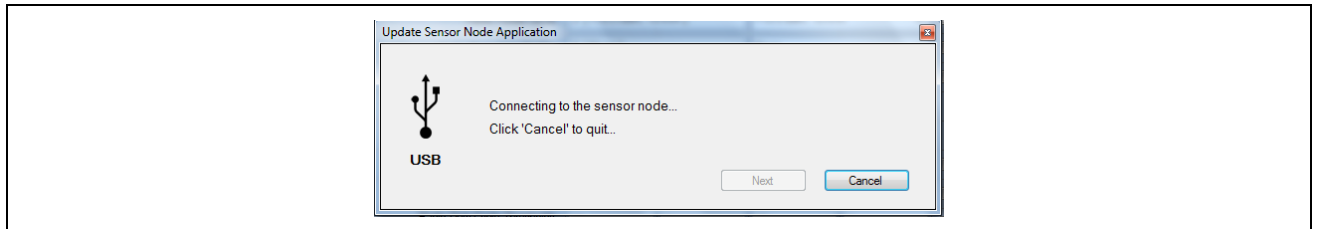

Figure 11 Connecting to the sensor node dialog
- 8 The dialog seen in Figure 11 will be displayed while the NCT is attempting to connect to the sensor node via the USB port.